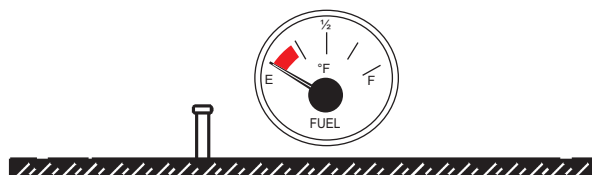

Figure 41. Full Fuel Tank
3. **NEVER overfill fuel tank** — It is important to read the fuel gauge when filling the trailer fuel tank. **DO NOT** wait for fuel to rise in the filler neck (Figure 41).